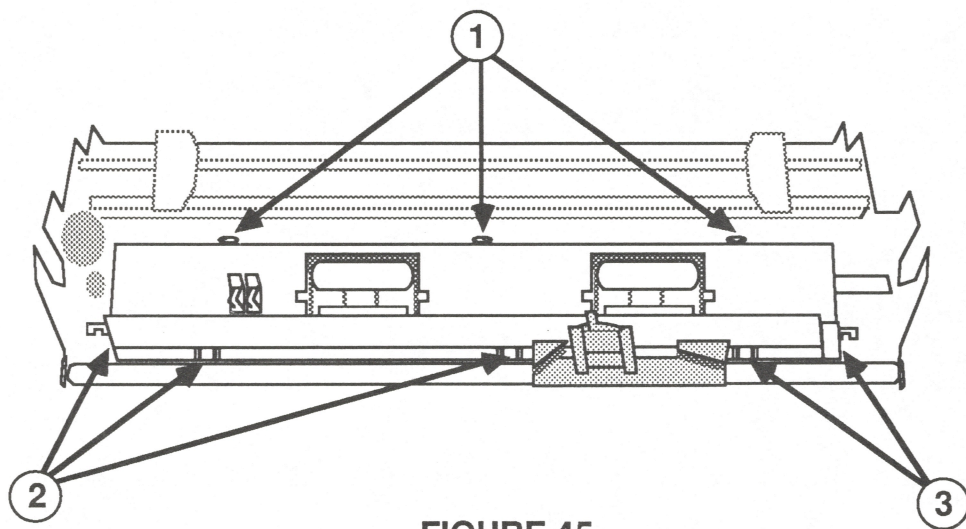

FIGURE 45
3. Remove the three screws that hold the paper guide in place (Figure 45, #1).
4. Push the carrier to the left; then gently unhook each of the three tabs (Figure 45, #2) using a small flatblade screwdriver.
5. Push the carrier to the right; then gently unhook each of the remaining two tabs (Figure 45, #3) using a small flatblade screwdriver.
3. Place the pinch rollers on the paper guide and replace the three screws (Figure 45, #1).